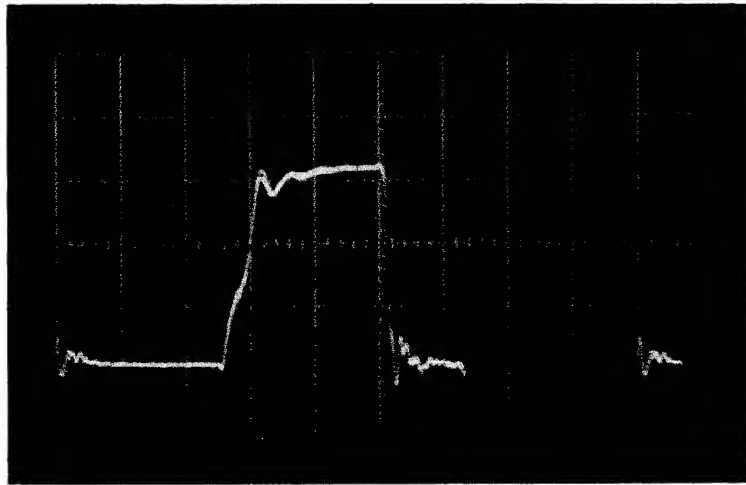

Figure 3-3 Positive Memory Current
- 5 Adjust rightmost trimpot R28 on module G826 (locations E2 and F2) until the positive waveform is 320 mA +5%, as shown in Figure 3-3. (Turning the potentiometer CW increases the current.)